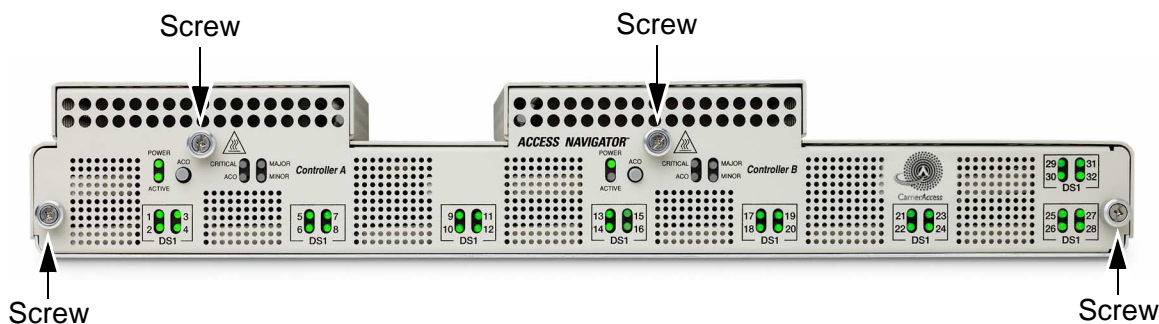

Figure 16-14. Location of Front Panel Cover Screws
2. Loosen captive thumbscrews on front cover (see Figure 16-14).